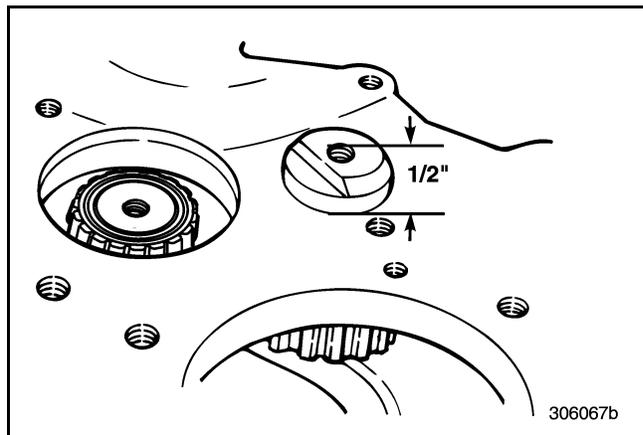

Figure 520 — Reverse Idler Shaft Protrusion
- Maintaining mark alignment, use a brass hammer to tap the reverse idler shaft for the No. 3 (lower) countershaft into the case. To ease installation of the mainshaft, do not drive the reverse idler shaft all the way into the case at this time. Leave approximately 1/2 inch of the idler shaft protruding above the case as shown in Figure 520. Be sure to maintain mark alignment.
11. While maintaining mark alignment, use a brass hammer to tap the reverse idler shaft into the case. To ease installation of the mainshaft, do not drive the reverse idler shaft all the way into the case at this time. Leave approximately 1/2 inch of the shaft protruding above the case as shown in Figure 520.